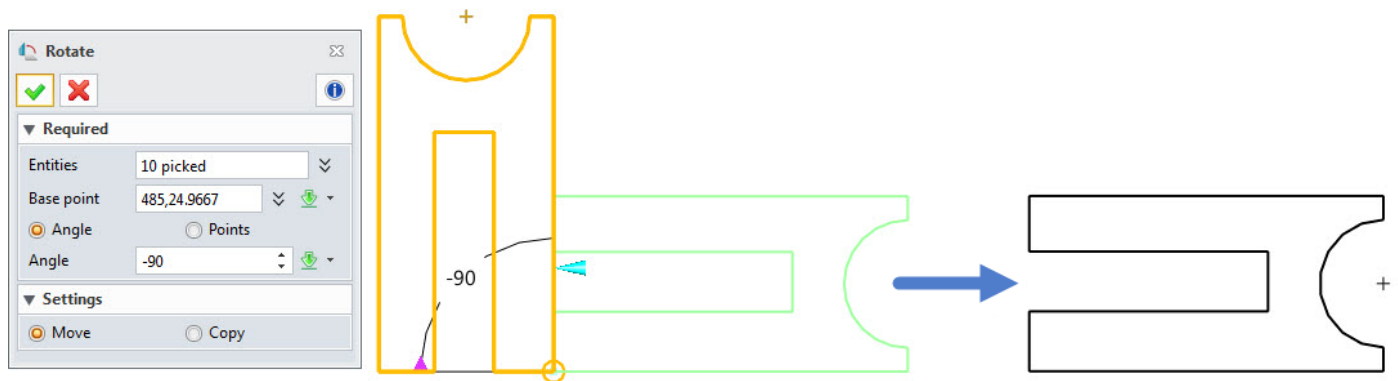
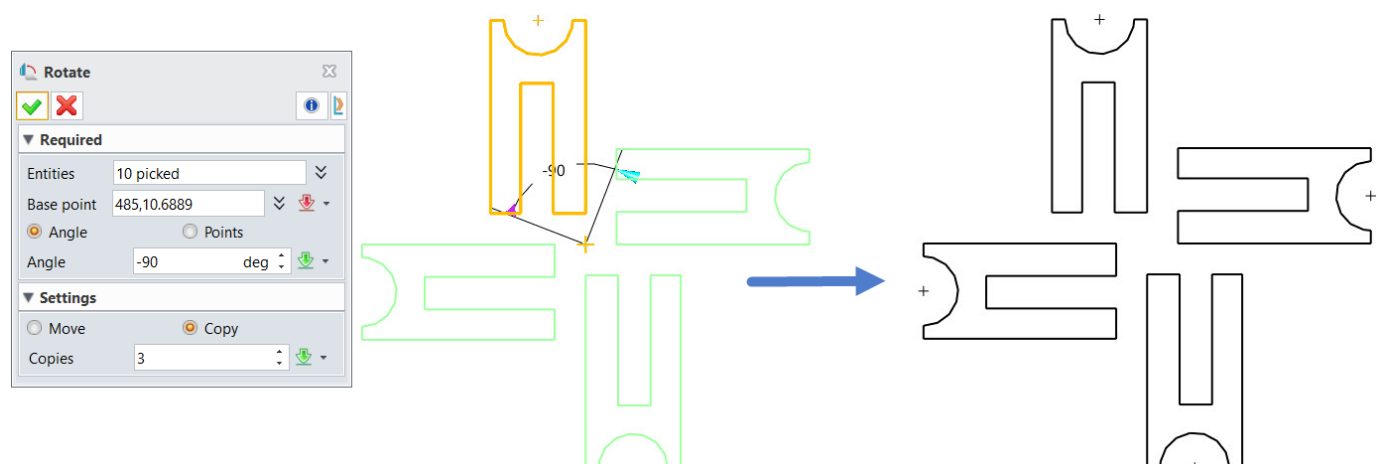

Figure 94 Rotate—Move the Entities
Figure 95 Rotate—Copy the Entities
STEP 03 Select a rotating method, **Move** (Figure 94) or **Copy** (Figure 95).